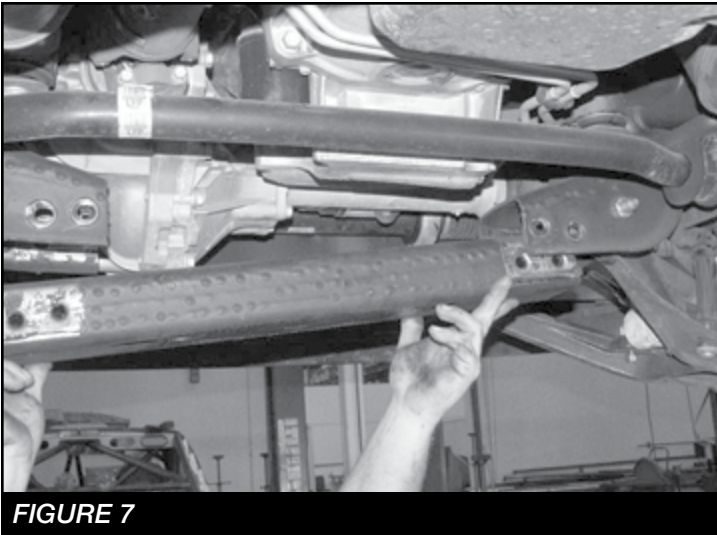

FIGURE 7
10. Remove the factory rear cross member and retain factory hardware. **SEE FIGURE 7**